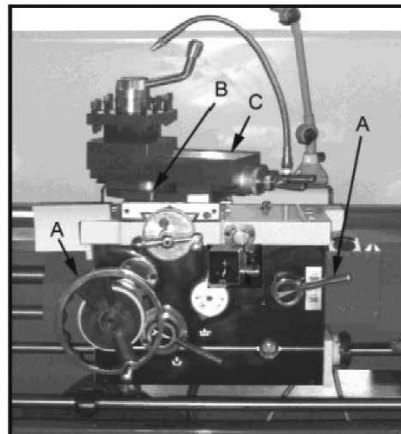

Fig. 18
4. Set Selector lever (D, Fig.18) to correct position (neutral).
5. Engage the half nut lever (A, Fig.18).
Compound Slide. The compound slide (C, Fig.18) is located on top of the cross slide and can be rotated 360°. There are calibrations in degrees (B, Fig.18) below the rest to assist in placement of the compound to the desired angle.